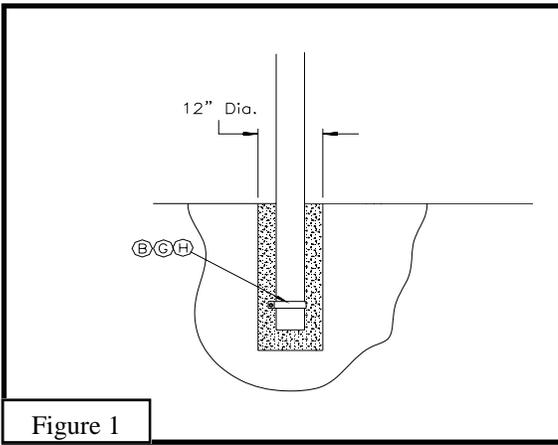
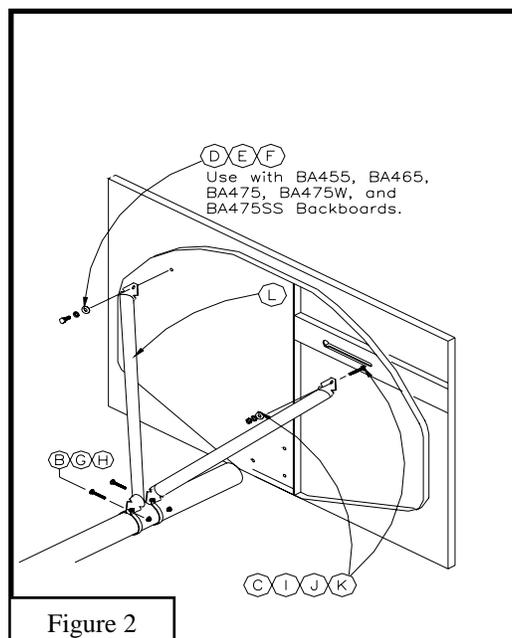
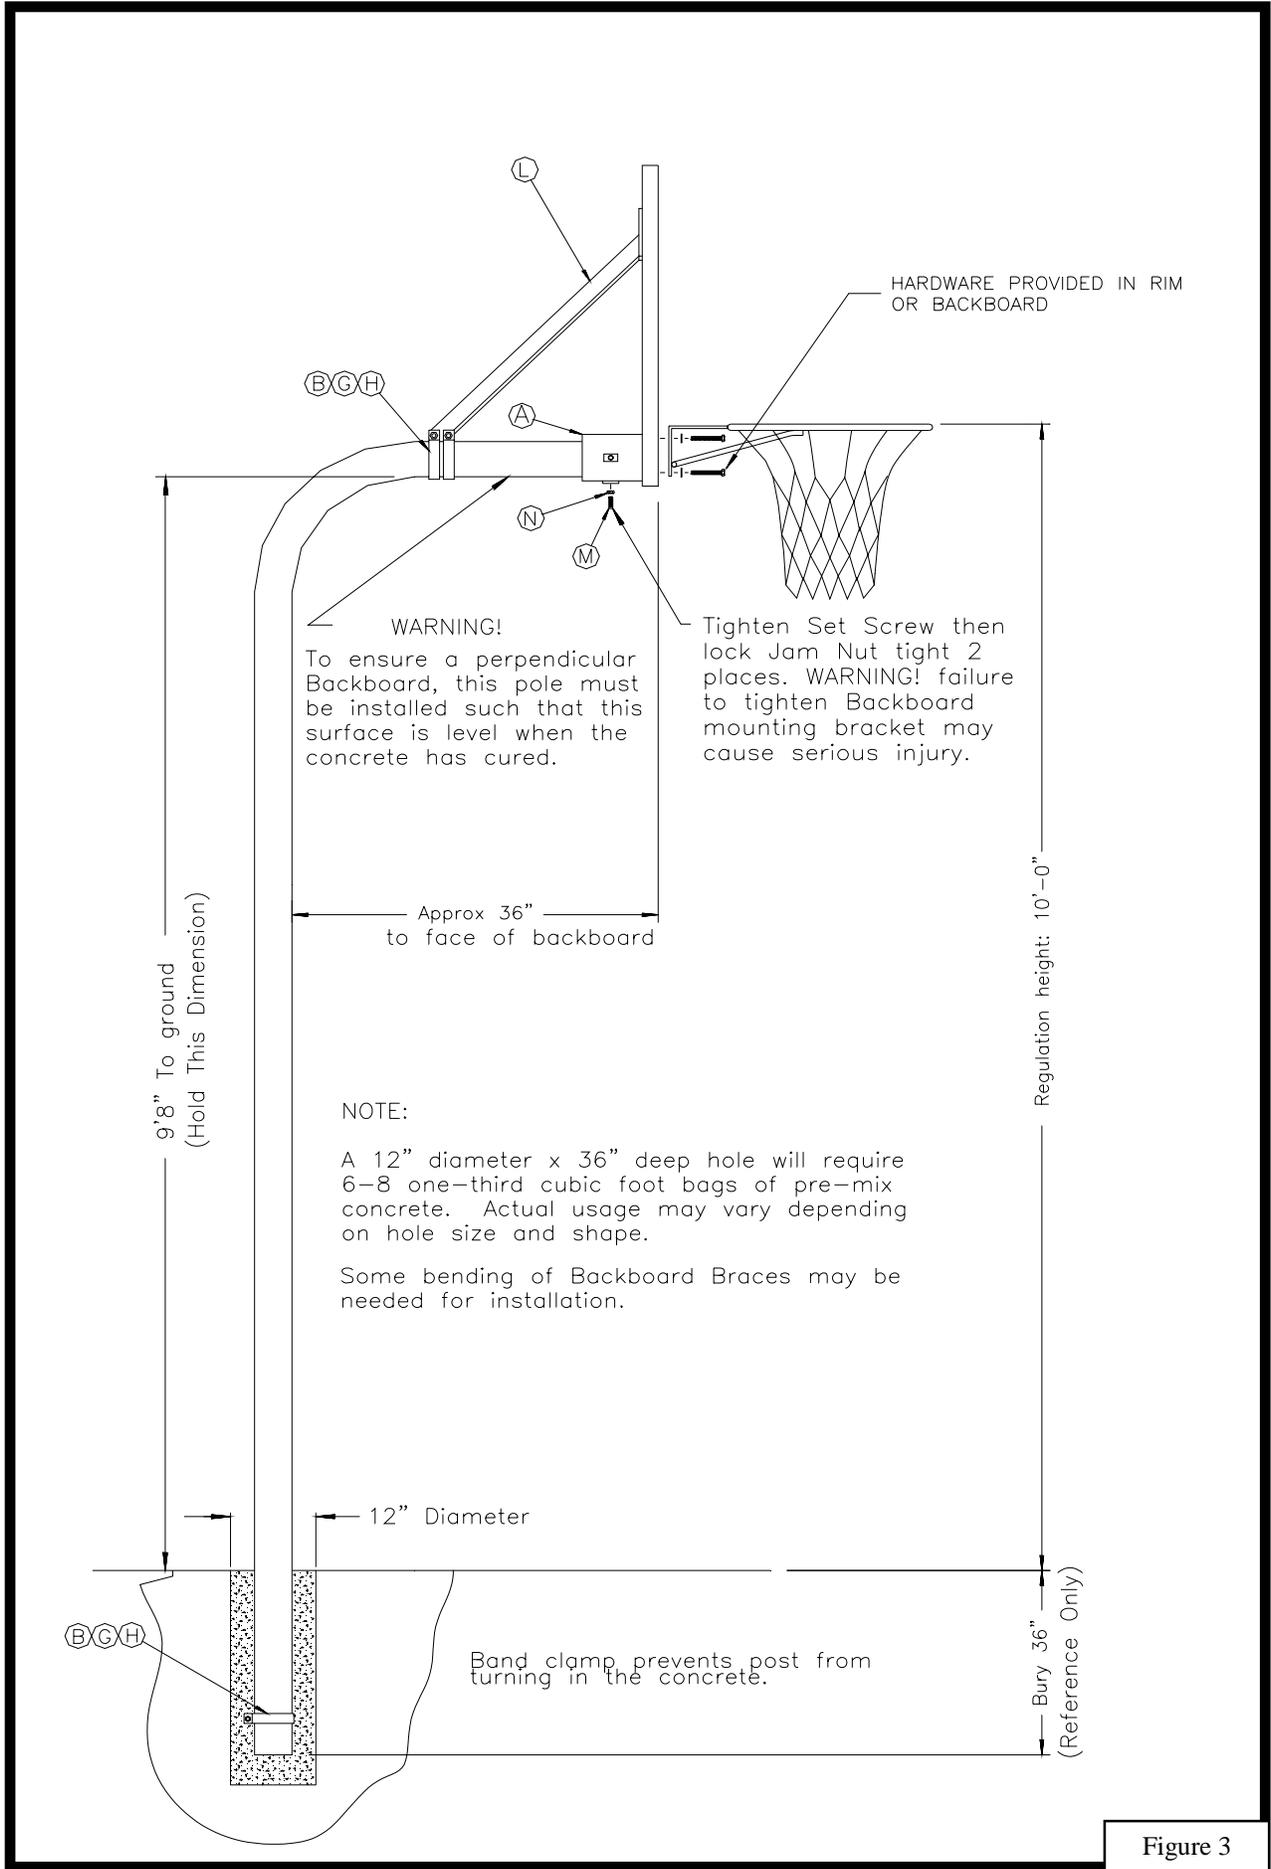

Figure 1
Figure 2
Figure 3
3. Mix concrete according to the directions on the bag. It is advantageous to have the mixture "wet". This will increase your working time and allow batches to mix in the hole. Pour the hole full to ground level. Attach 3-1/2" Band Clamp (B) with 5/16" x 2" Carriage Bolt (G), and 5/16" Flange Nut (H) to bottom end of pole and insert pole into concrete while vibrating concrete to allow it to surround the pole completely. The pole height from the ground to the bottom of the bend should be 9' 8". **See Figure 1 and Figure 3 on the following page.**
4. Clean excess concrete from pole. Level the pole in the hole and allow the footing to cure for seven (7) days. Only after the concrete has cured for seven days should you proceed.
5. Seven days have passed. Slide the 3-1/2" Band Clamps on to the gooseneck portion of the pole. Assemble rim and backboard to the Backboard Mounting Bracket (A), then attach the Backboard Mounting Bracket (A) to the end of the pole with 1/2" Square Head Set Screws (M) making sure that the rim and backboard are level. Fasten Backboard Braces (L) to the backboard with 7/16" x 2" Carriage Bolts (C), 7/16" Hex Nuts (K), 7/16" Flat Washers (I), 7/16" Lock Washers (J), and to the 3-1/2" Band Clamps (B) with 5/16" x 2" Carriage Bolts (G), and 5/16" Flange Nuts (H). **See Figure 2 and Figure 3 on the following page.**